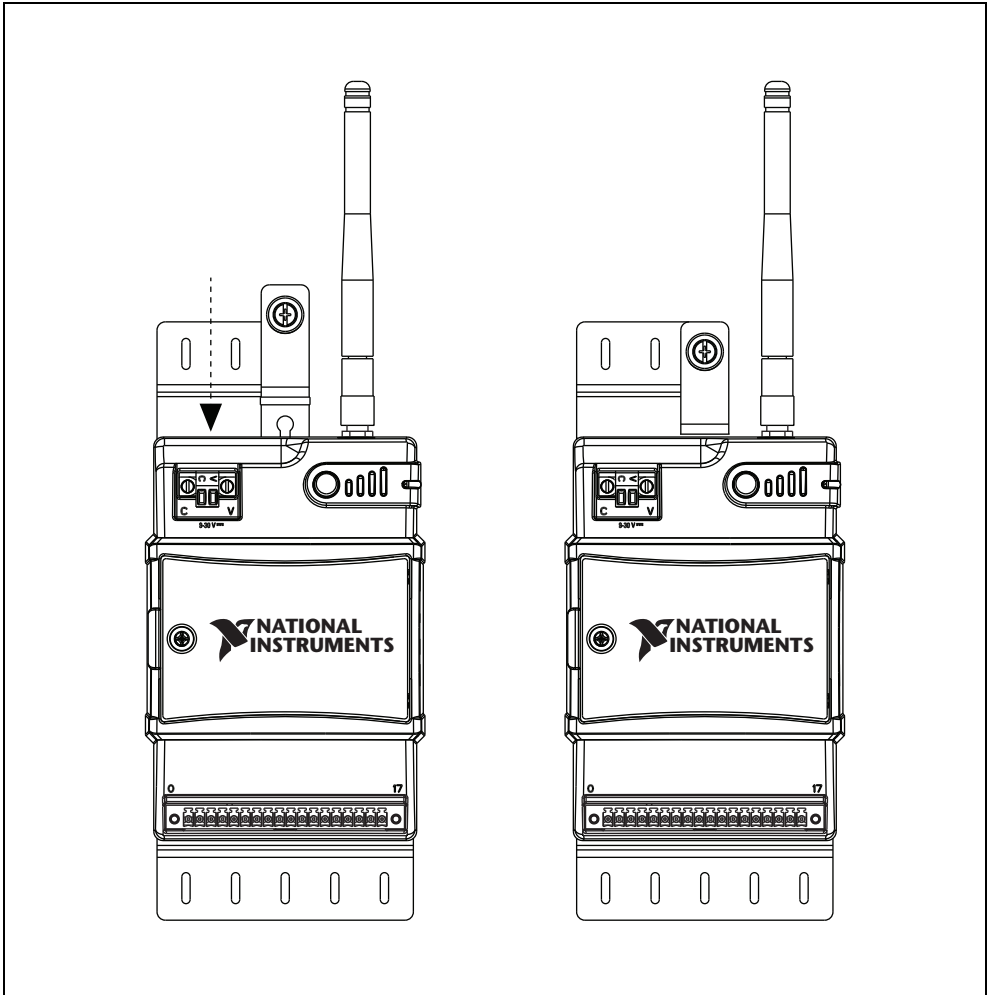

Figure 9. Slide Retention Clip Down and Tighten Panel Mount Knob
- Slide the retention clip down and tighten the panel mount knob to secure the NI WSN-3212 device as shown in Figure 9.